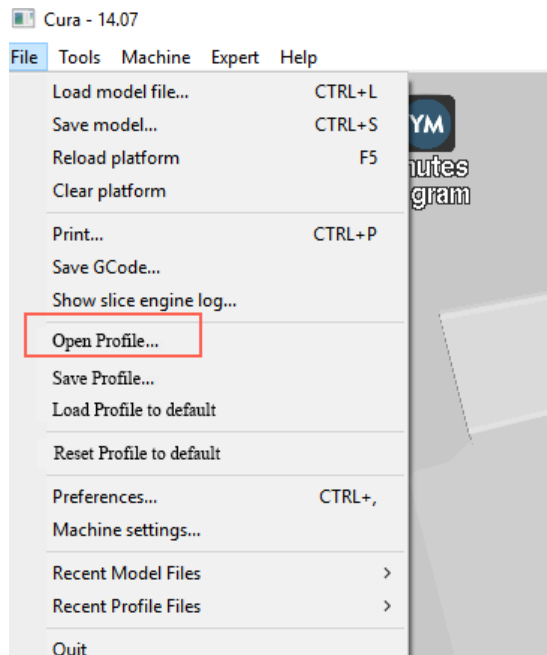

Figure 5.147 Import slice parameters
- Set slice parameters, and select **File > Open Profile** to import these parameters, as shown in Figure 5.147.